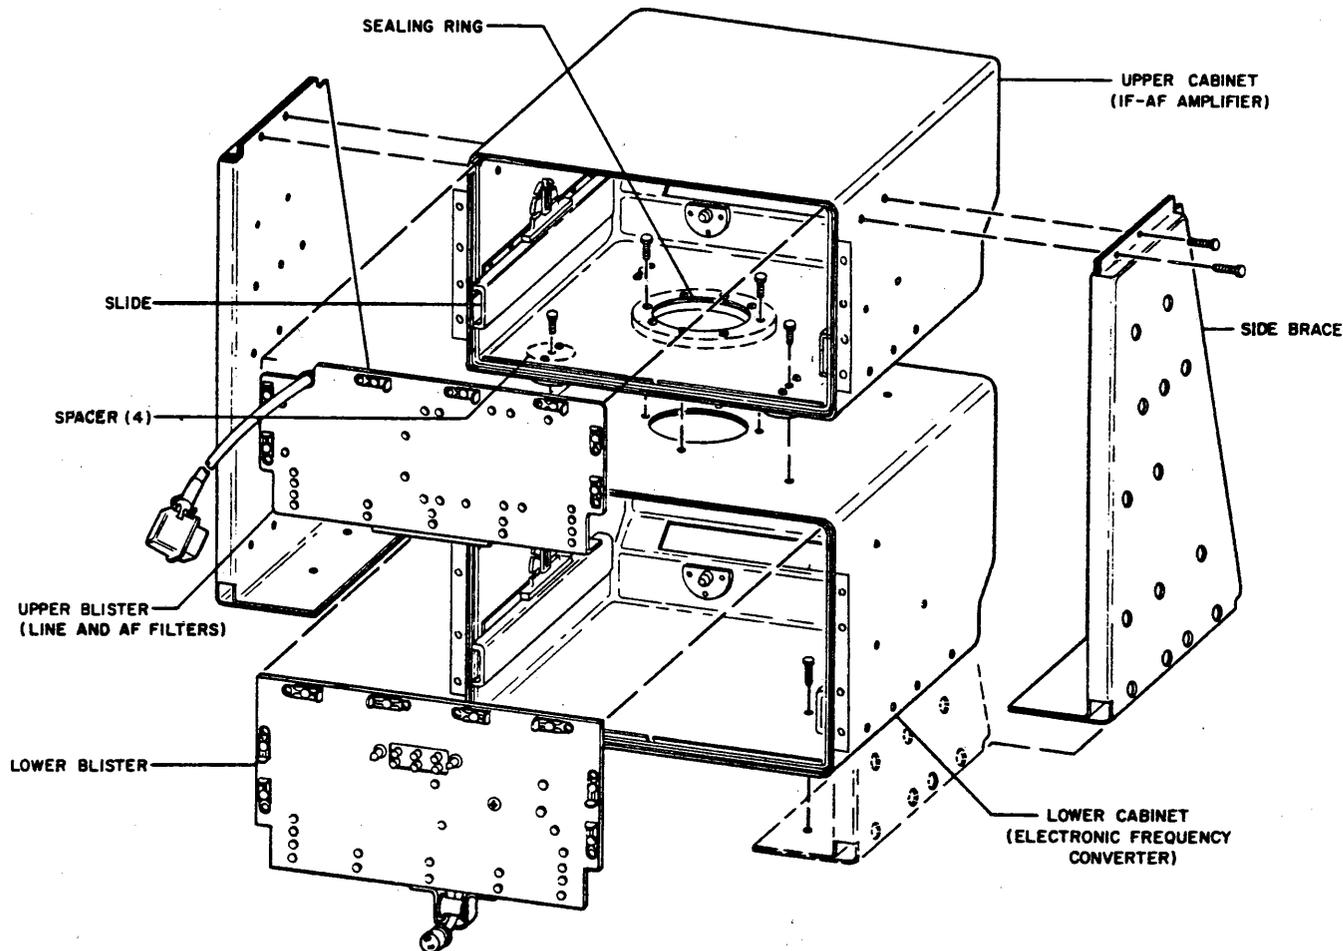

Figure 2-5. Cabinet Mounting Details
(2) REMOVING SIDE BRACES (FOR AN/WRR-2A ONLY).—As shown in figure 2-5 each of the two side braces is affixed to the joined cabinets by eleven 1/4-inch hex-head screws. A lock washer and a plain washer accompany each screw. Detach these screws to free the brace from the cabinet side, saving the hardware for reassembly.
(3) SEPARATING THE CABINETS.